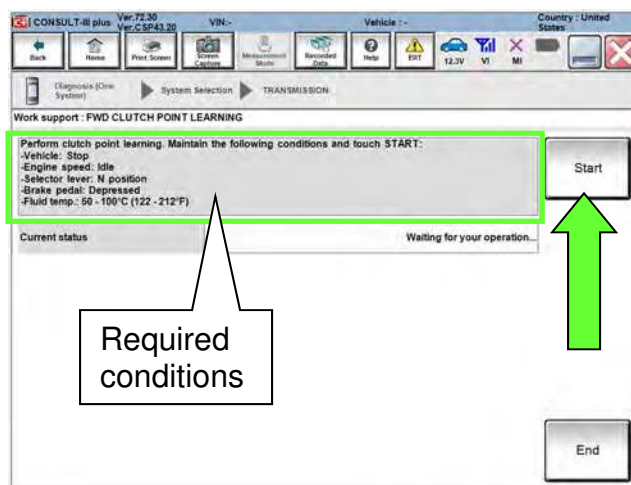
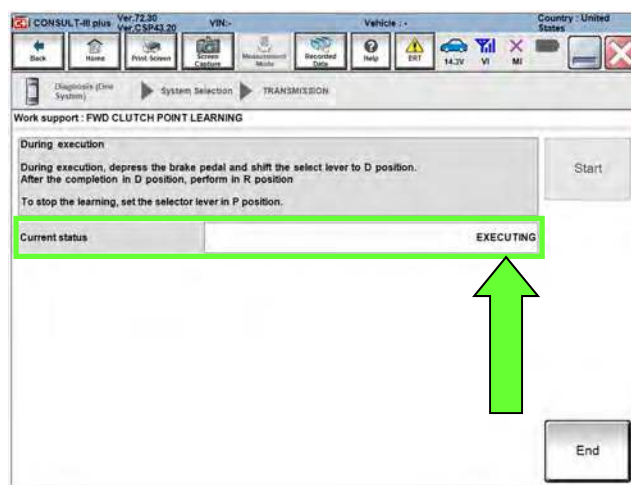
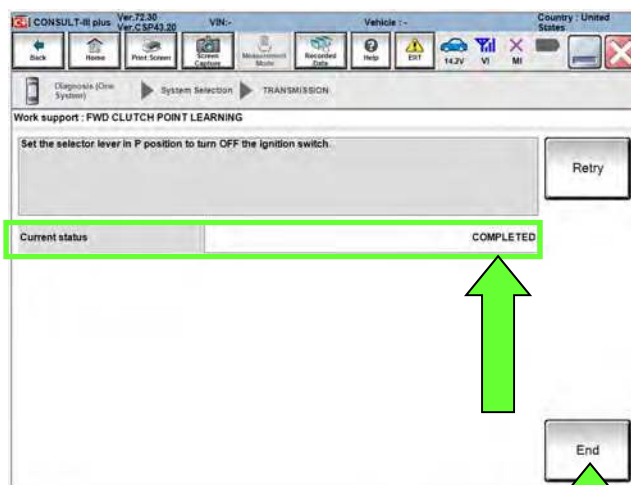

Figure 43
Figure 44
Figure 45
- Confirm that all of the required conditions indicated in Figure 43 are being met.
55. While maintaining all conditions shown in Figure 43 and the “Current status” indicates “EXECUTING” as shown in Figure 44, shift the CVT into **D** and then wait until the Current status indicates “COMPLETED” as shown in Figure 45.
56. When the screen in Figure 45 is displayed, shift the CVT into Park (**P**), and then select **End**.